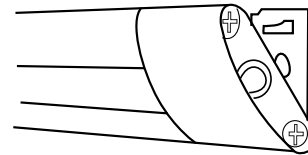

Fig. 1
NOTE: Use only a Plug the LightBar to power supply connector into the LARC6 LED LightBar (Fig. 1). Connect the positive (+) side of the wire from the connector (denoted by white writing) to the positive (+) lead of the 24VDC power supply. Connect the negative (-) lead of the 24VDC power supply. (Power supply and connector included (1) GMC-PS-24).